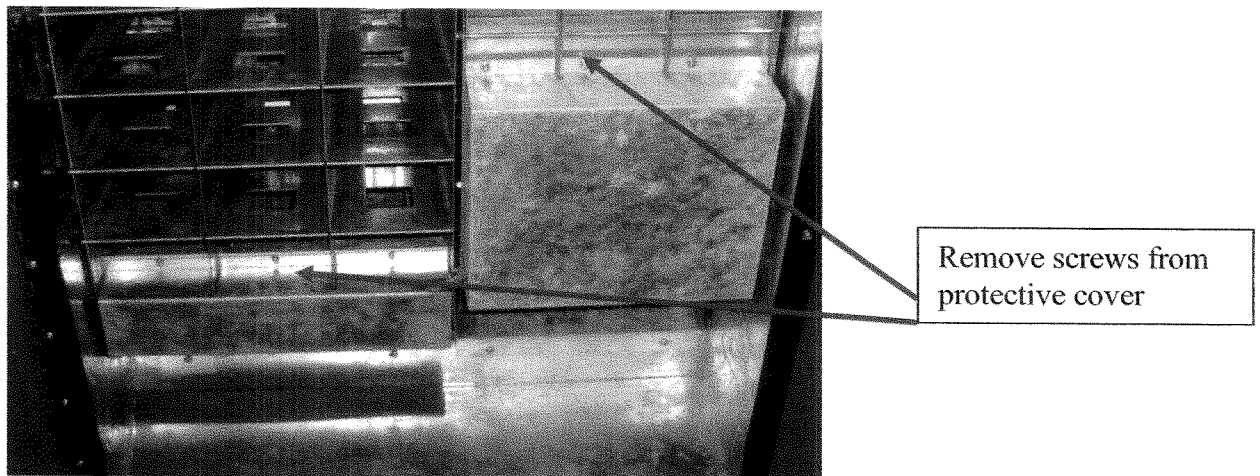

Figure 35 – Remove protective cove.
In the beverage compartment, the motors are mounted in the front behind the protective covers (*reference figure 35*)
1. Remove the protective cover (*reference figure 35*).